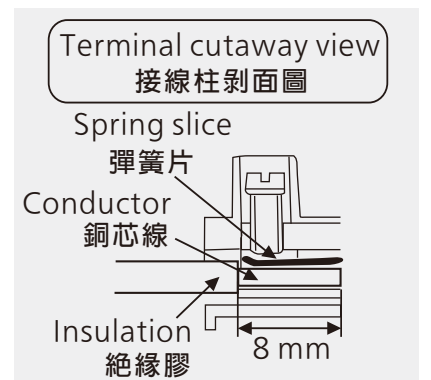

Figure 2
- ❗ Strand the core wire together after stripping, then insert them into about 8 mm deep position of the terminal block, ensuring that the part is under the spring slice, and no copper core cord is exposed outside. Make sure that the copper core cords are fixed by screws reliably (the recommended screw fixing torque is $0.49 \text{ N} \cdot \text{m}$) (See Figure 2.). Otherwise an electric shock may be caused.